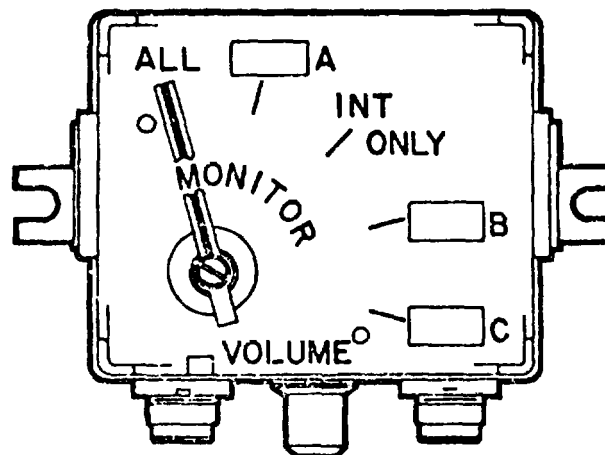

Figure 14-2. Crew Members Control Box
- c. Normal Radio and Intercom Operation with Crew Members Control Box. See figure 14-2.